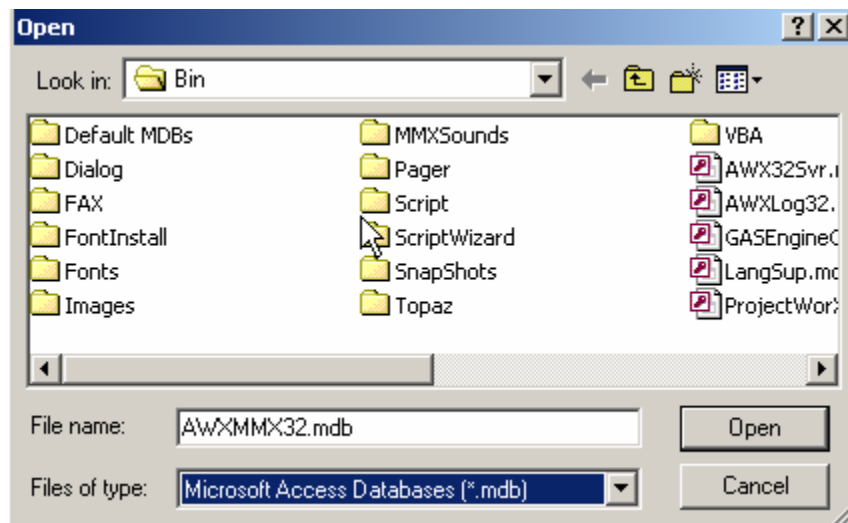

Figure 1.29. Selecting a Microsoft Access Database
2. Selecting a Microsoft Access database and then click **Open**, as shown in **Figure 1.29**.